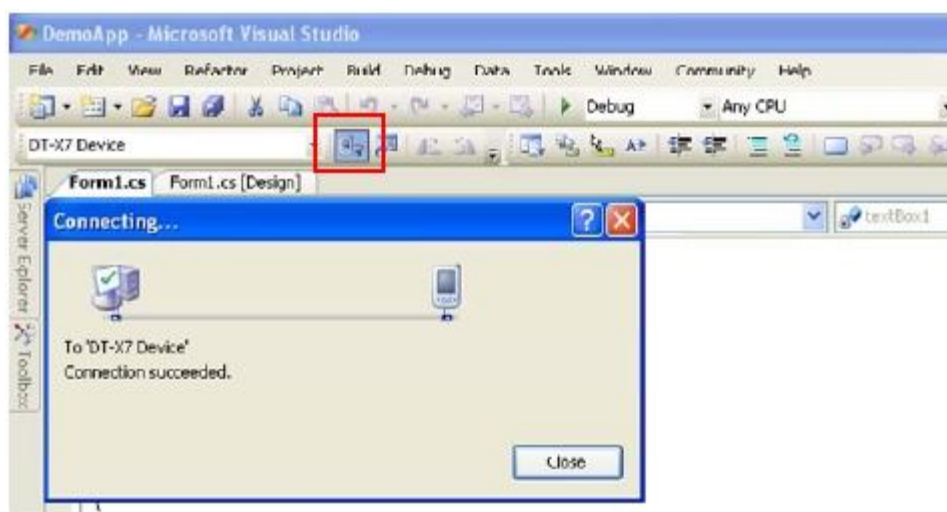

Figure 3.1
3. Click the button shown in the red box below (see Figure 3.1) to make sure that Visual Studio 2005 has recognized the connection established with the DT-X7 via ActiveSync. If it does not, start up ActiveSync again to establish connection.